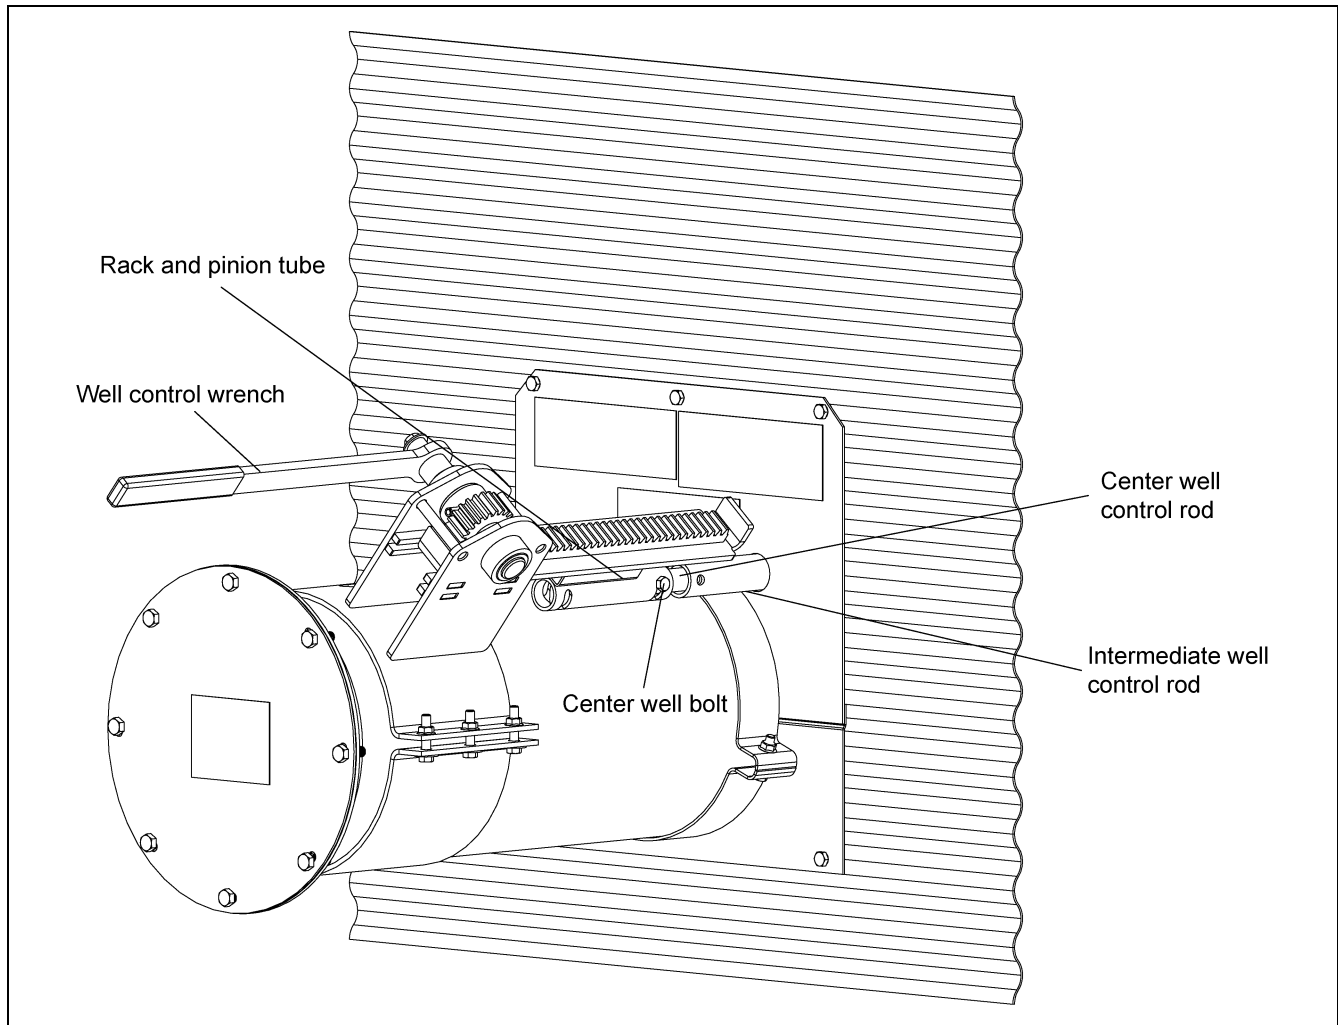

Figure 6E
2. Make sure the center well bolt is inserted through the rack and pinion tube and center well control rod. Make sure the intermediate well control rod is not attached to the center well control rod. (See Figure 6E.)